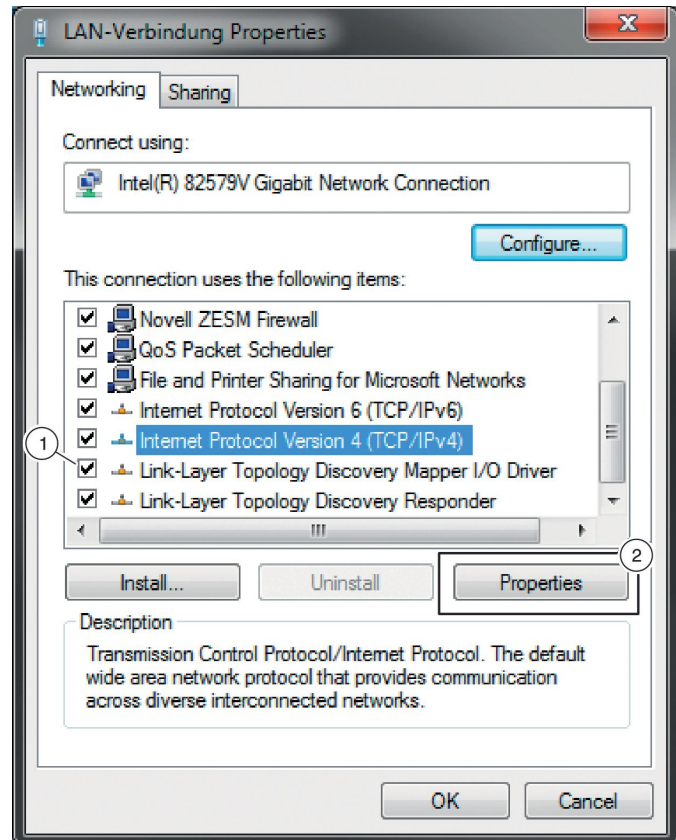

Fig. 40: LAN connection properties
6. ▶ Select 'Internet Protocol Version 4 (TCP/IPv4)' ( Fig. 40 /1), then click on the 'Properties' ( Fig. 40 /2) button.
7. ▶ Select the 'Use the following IP address:' ( Fig. 40 /1) option, enter the IP address, subnet mask and default gateway and confirm with 'OK'.